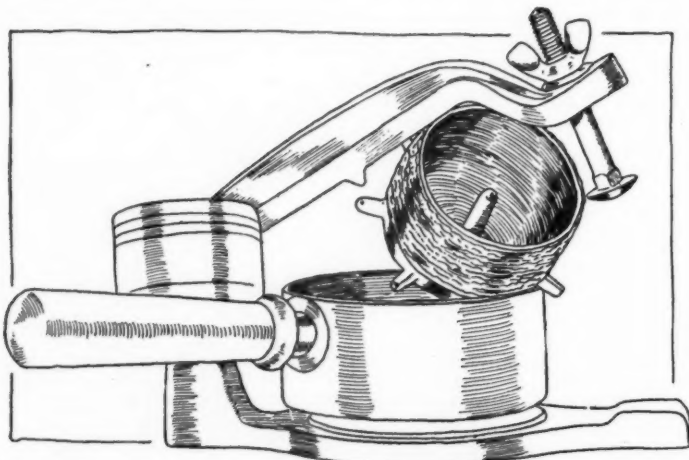

Fig. 8—Shaler Vulkit equipment
**Shaler Vulkit Equipment**—The new vulcanizer repair kit, Fig. 8, made by the C. A. Shaler Co., Waupun, Wis., is a handy set which serves for making repairs on inner tubes. The set consists of a kettle which is placed on an asbestos-faced support for the tube, a burner carrying a wick, which fits into the kettle, a measure for proportioning the fuel with which the wick is saturated, a roll of vulcanizing rubber, sand and wax paper, and a small can of cement. To the end of the support a cross arm is linked, which may be turned over to go across the kettle and be secured to the other end of the support by a bolt which carries a wing nut.